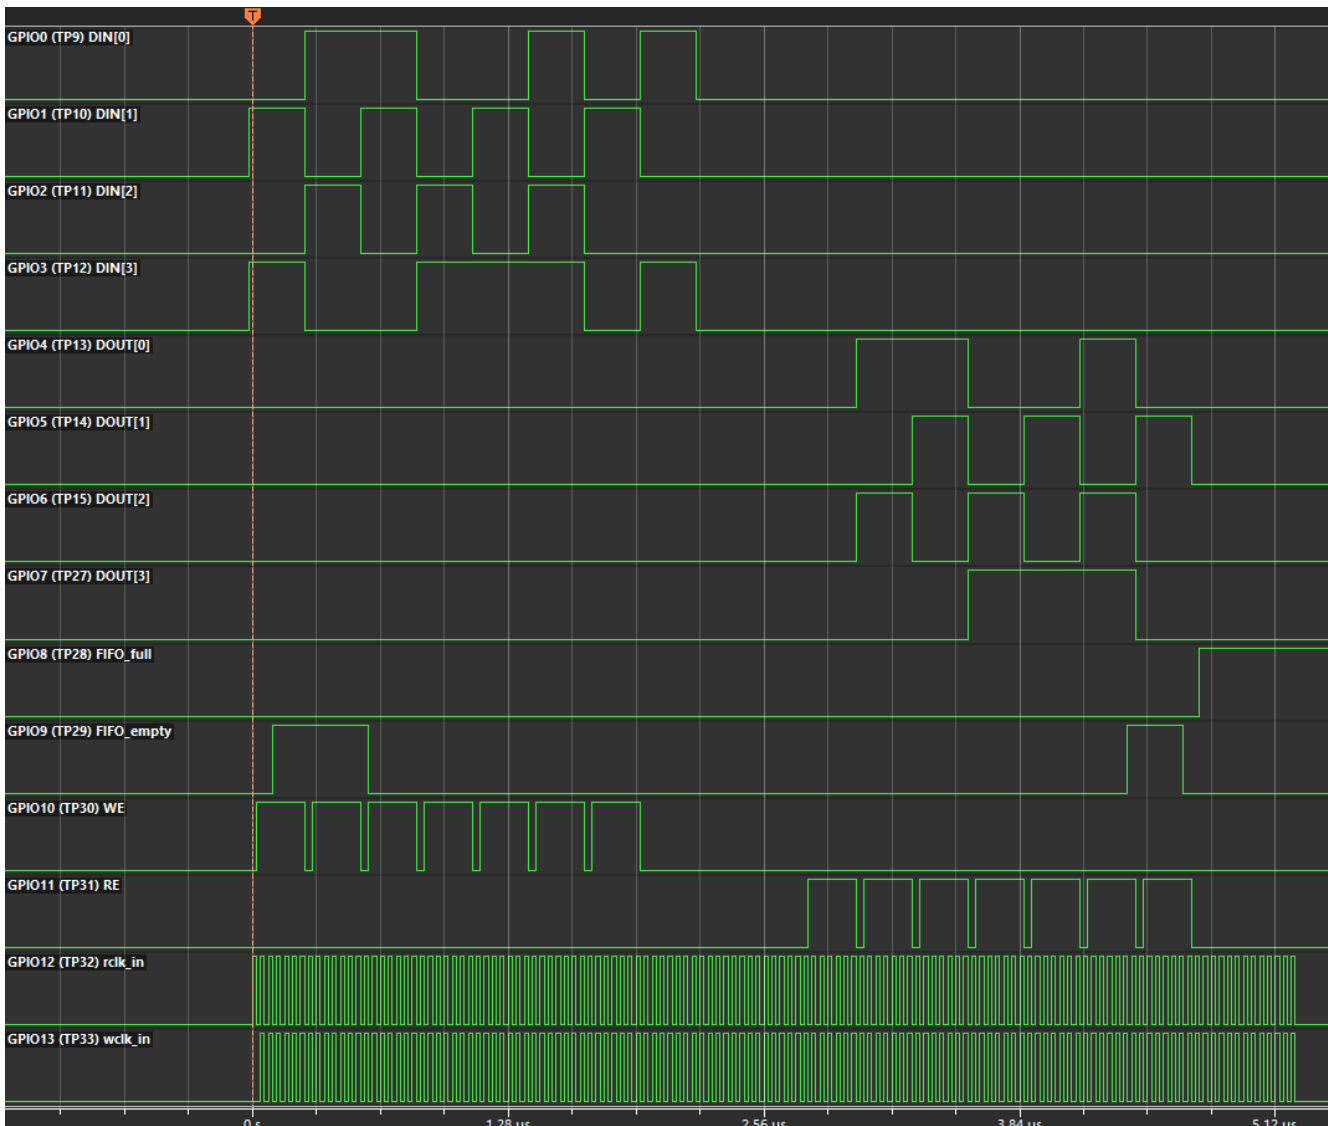

Figure 8 : Output on Logic Analyzer
11. Apply the desired inputs from GPIO[0-3] and observed the DOUT through GPIO[4-7]. GPIO8 will indicate if the FIFO is full and GPIO9 will indicate if the FIFO pipeline is empty. The user can observe waveforms through the inbuilt Logic Analyzer (Figure 8), or the user can connect the desired GPIOs to an oscilloscope to observe the waveforms.